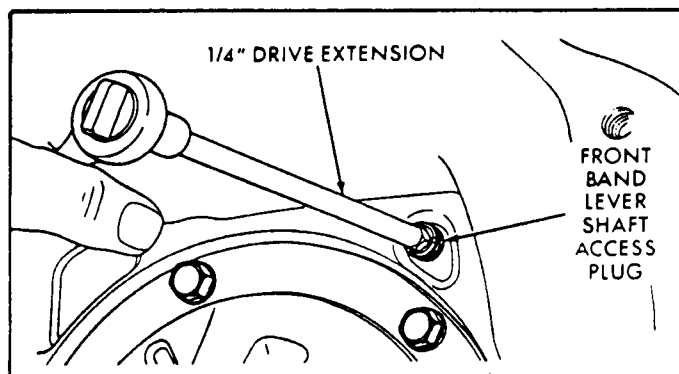

Figure 139
27. Coat the front band pivot pin access plug with sealer, and install plug in converter housing (See Figure 139).